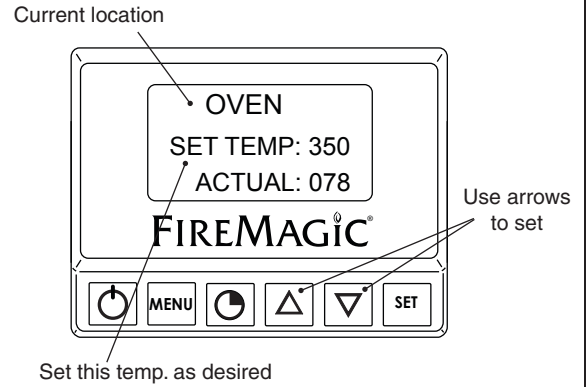

Fig. 16-1 Area temp. screen (oven shown)
2. The selected location's temperature screen will be displayed. Use the arrows to set the desired temp. The actual temp. will also be shown (see Fig. 16-1).